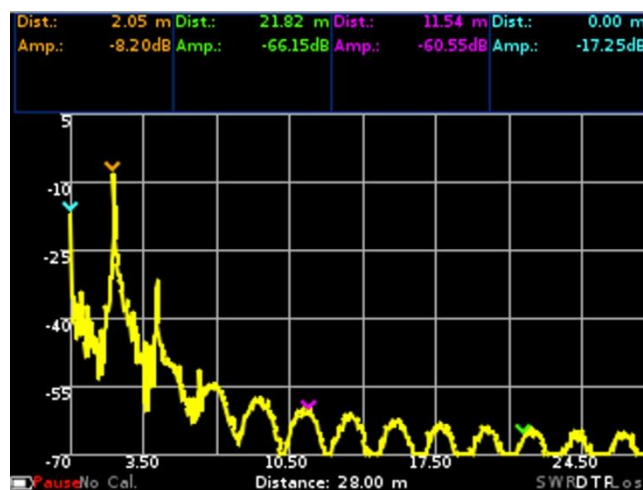

Figure 8.2 – Pause mode
8.6. Clicking on the screen with the displayed plot during the measurements puts the device in the pause mode (Figure 8.2). In this mode, the user can take a closer look at the plot. Device status information is displayed by a flashing **PAUSE** symbol next to the battery symbol.